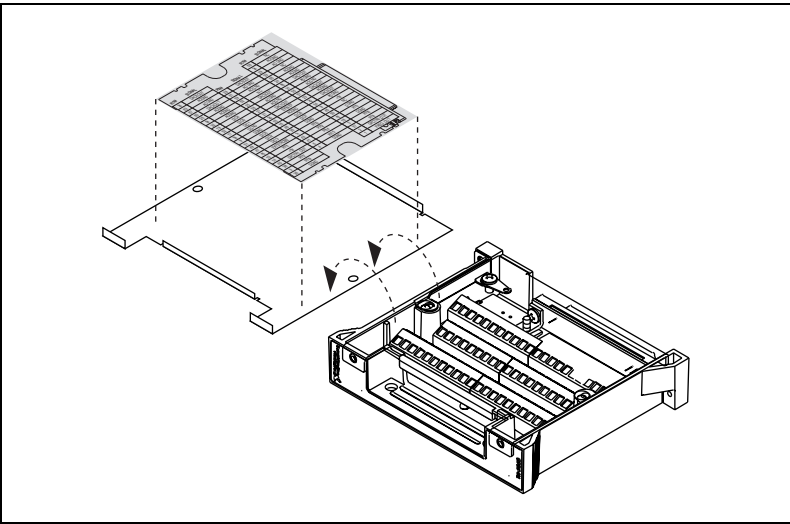

Figure 4. Applying the Overlay
- Apply the label to the inside of the top cover as shown in Figure 4. This label is a pin number to signal name reference. Each overlay has an adhesive backing for adhering the overlay to the top cover.